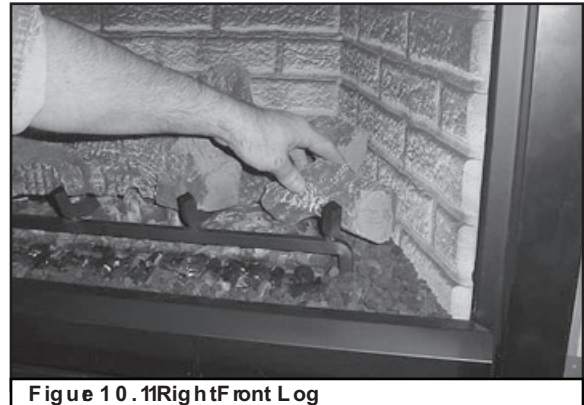

Figure 10.11 Right Front Log
- Place the right front log along the right side of the grate so the notch in the log rests on the right side of the grate and the left side rests on the burner. See Figure 10.11.